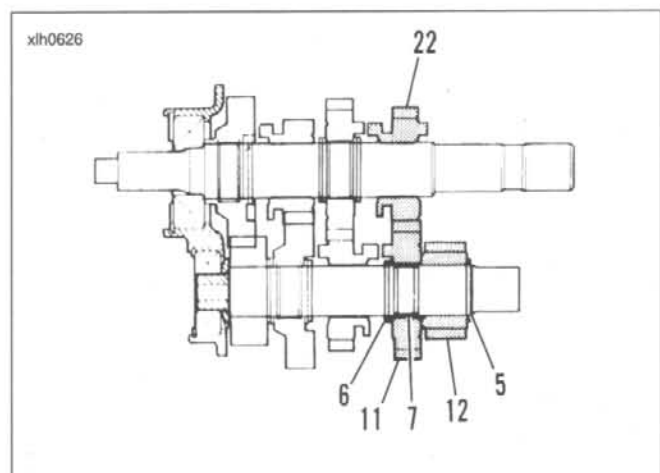

Figure 6-38.
See Figure 6-38. Using RETAINING RING PLIERS (Part No. J-5586) remove and discard retaining ring (5) next to countershaft 5th gear (12). Slide countershaft 5th (12), mainshaft 2nd (22) and countershaft 2nd (11) off end of shafts.